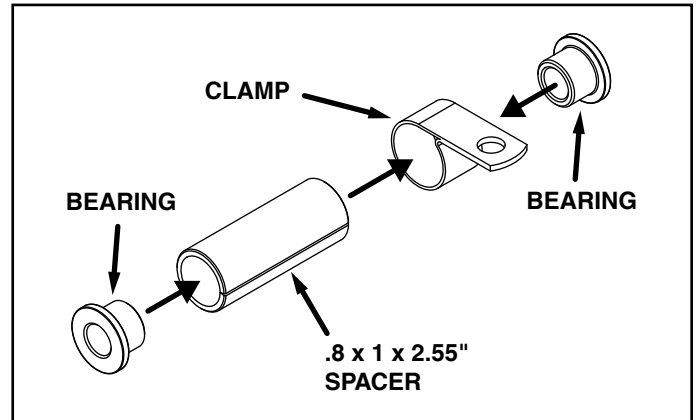

FIGURE 7
1. Assemble the four bearings to the two .8 x 1 x 2.55" spacers and then slide each through a clamp. See figure 7.